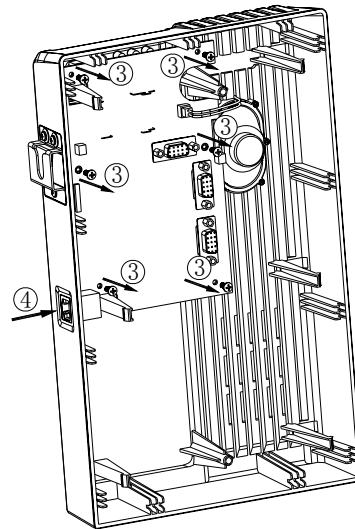

Figure 4
3. Remove the six screws (ST3.0X8.0) ③ that secure the control panel using a screwdriver, shown as Figure 4.
4. Gently press and remove the RJ45 port ④ from the front panel, then pull out the speaker cable to remove the controller PCB, shown as Figure 4.